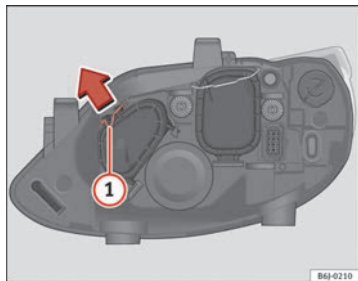

Fig. 159 Main beam headlights
- Move the loop ① in the direction of the arrow and remove the cover ⇒ fig. 159.